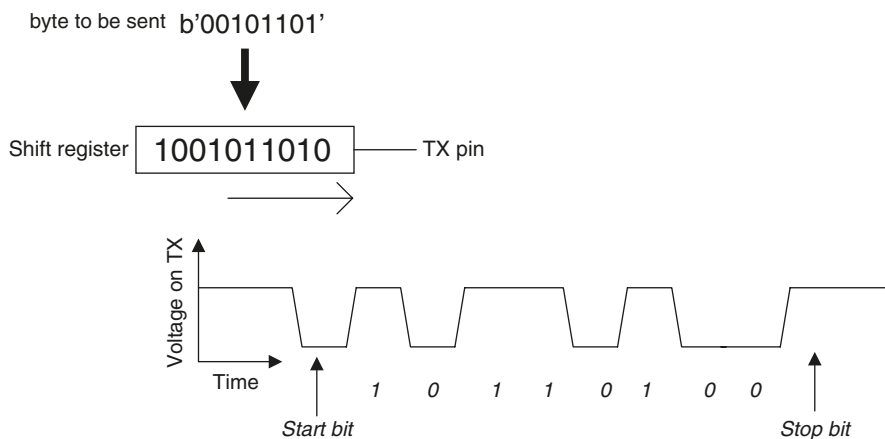

Figure 5.2
In asynchronous mode, the USART takes the 8- or 9-bit character to be sent, and adds a *start bit* (a zero) to the front, and a *stop bit* (a one) to the end to create a 10- or 11-bit sequence. This is then moved onto a shift register which rotates the bits onto the transmission pin (TX), as shown in Figure 5.2.